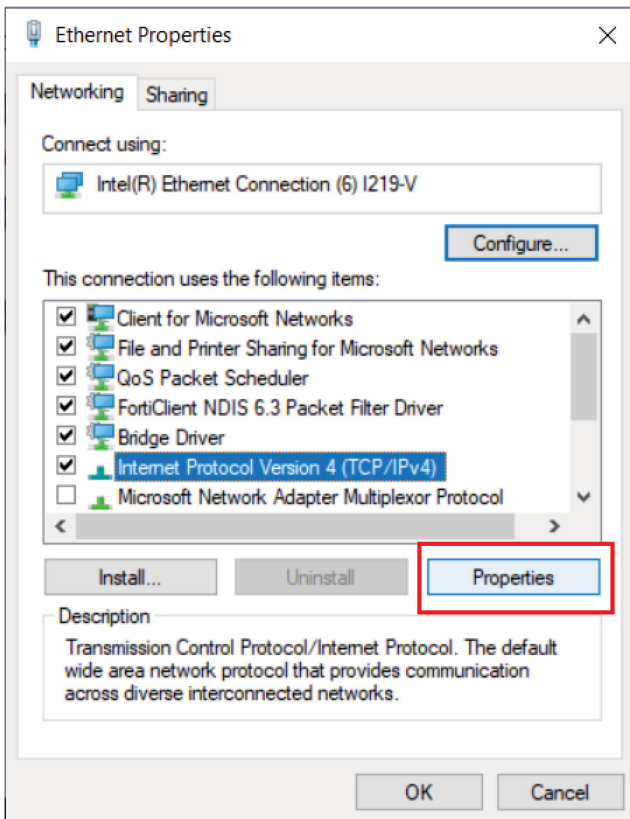

Figure 9. Ticking the Internet Protocol Version 4 (TCP IPv4 checkbox).
5. The **Ethernet Properties** window will appear. Select **Internet Protocol version 4 (TCP/IPv4)** and tick the corresponding check box. Click **Properties** (Figure 9).